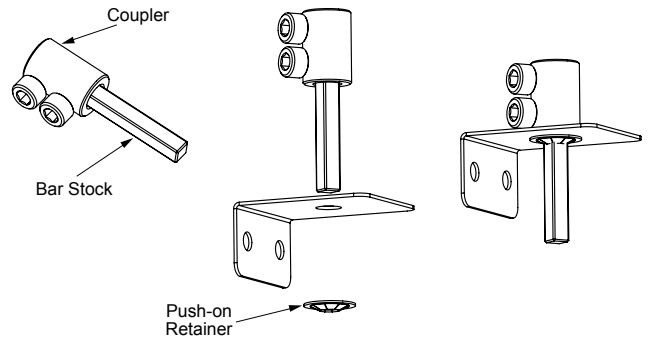

Figure 2
2. Install the bar stock into the coupler and then secure the bar stock-coupler assembly on the bracket using the push-on retainer as seen in Figure 2.